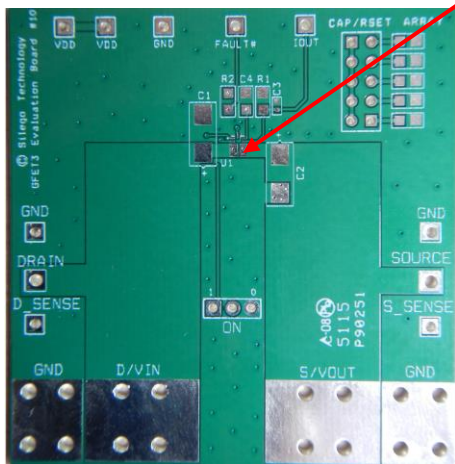

Figure 3. SLG59M1713V Evaluation Test Board
Please note how the VIN and VOUT pads are placed directly on the power planes in Figure 3, which minimizes the RDS(ON) associated with long, narrow traces. The VIN and VOUT pins dissipate most of the heat generated during high-load current condition. The layout shown in Figure 3 is illustrating a proper solution for heat to transfer as efficiently as possible out of the device.